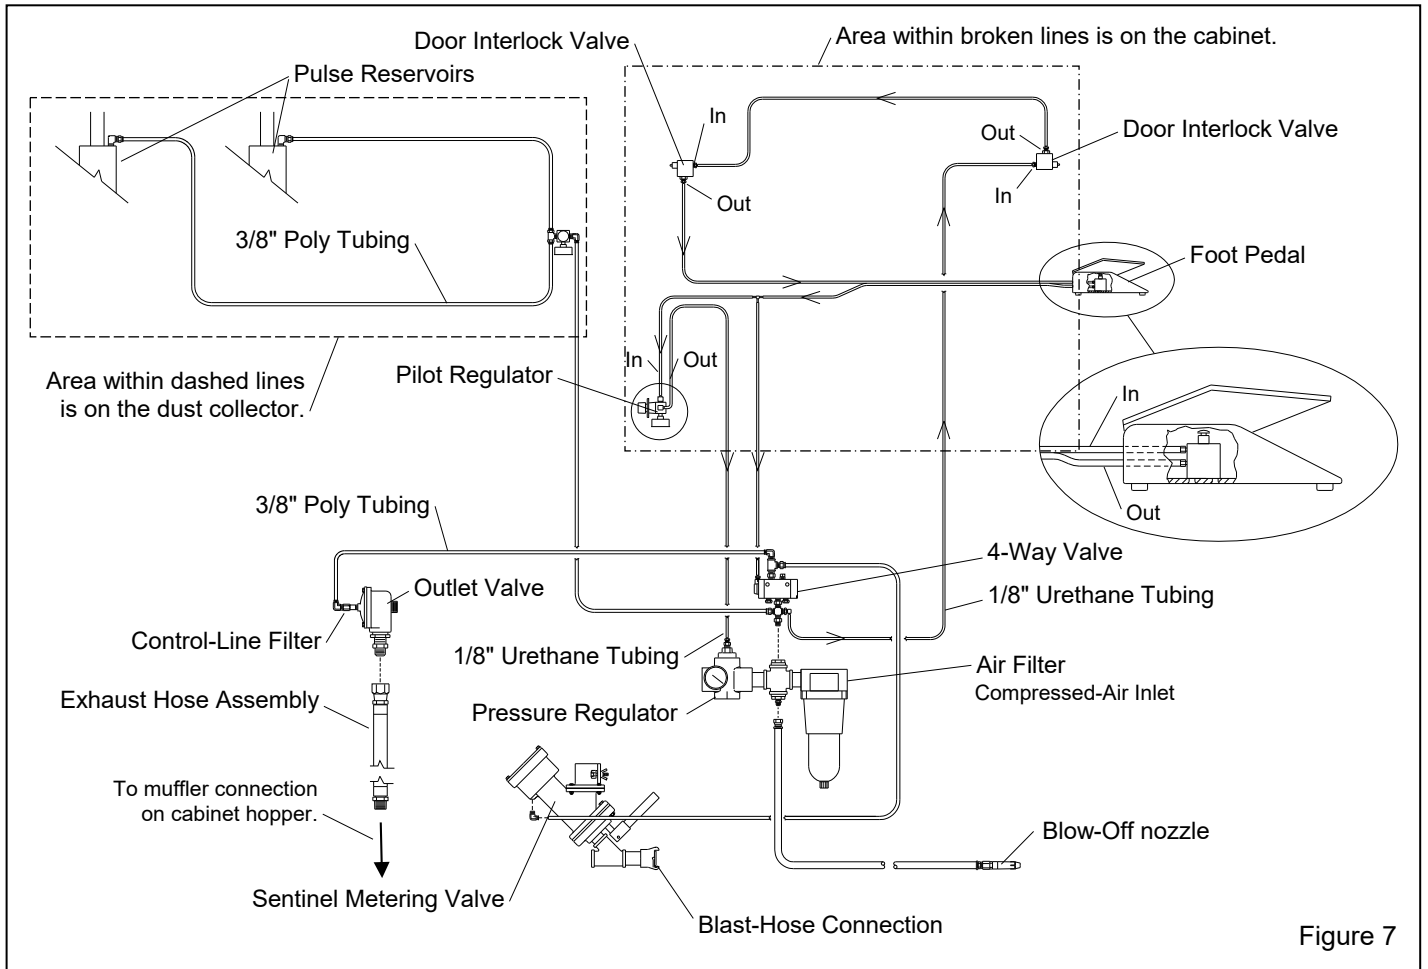

Figure 7
**2.4.1** Attach the 1/2" blow-off hose, coming from the cabinet hopper, to the compatible fitting on the blast machine piping, located between the air filter and regulator. Refer to Figures 2 and 3, and schematic in Figure 7.
**2.5.1** Uncoil the 1/8" urethane control tubing from the cabinet. The end of each length of tubing is numbered. Connect the tubing to the adaptor with the corresponding number on the pressure regulator and 4-way air valve. Refer to the schematic in Figure 7 to confirm the connections.